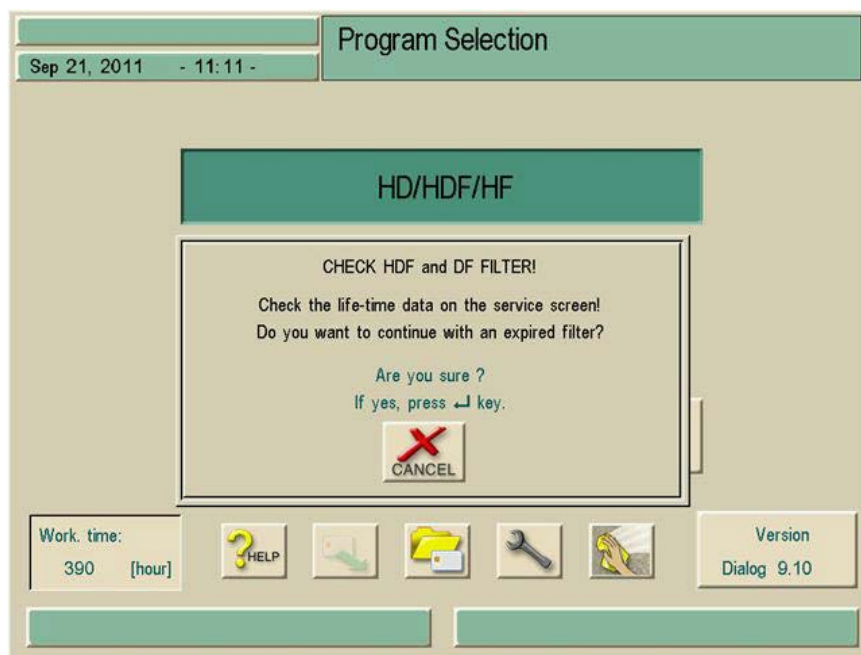

Fig. 10-28 "Filter change" warning window
- Slowly take a sample from the sample port at the dialysis fluid DF tubing, using a small syringe, e.g. a 2 ml syringe (see Fig. 10-28).